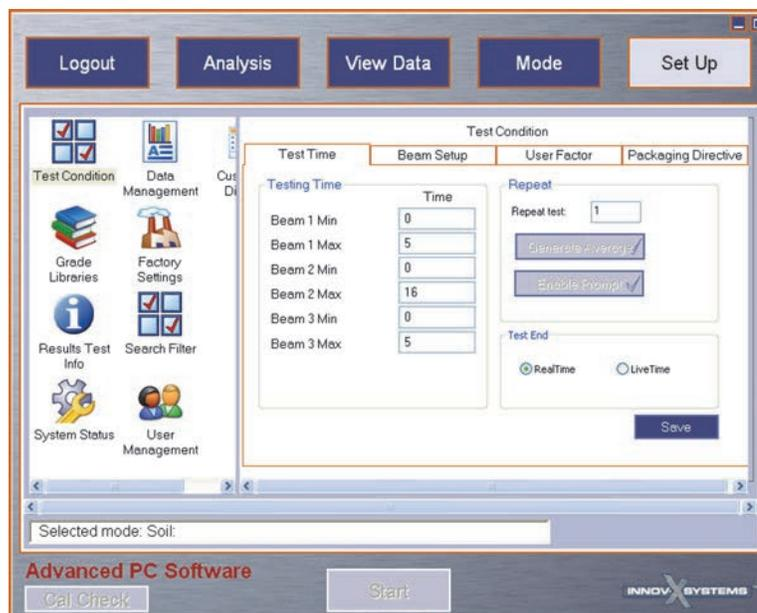

Figure 3-1 The Set Up window – Soil mode
Mode setup involves setting test conditions using the **Test Time**, **Beam Setup**, **User Factor** and **Packaging Directive** tabs. Settings are accessed from the **Test Condition** pane (see Figure 3-1 on page 63).
1. Select the appropriate mode, and then click **Set Up** (see Figure 3-1 on page 63).